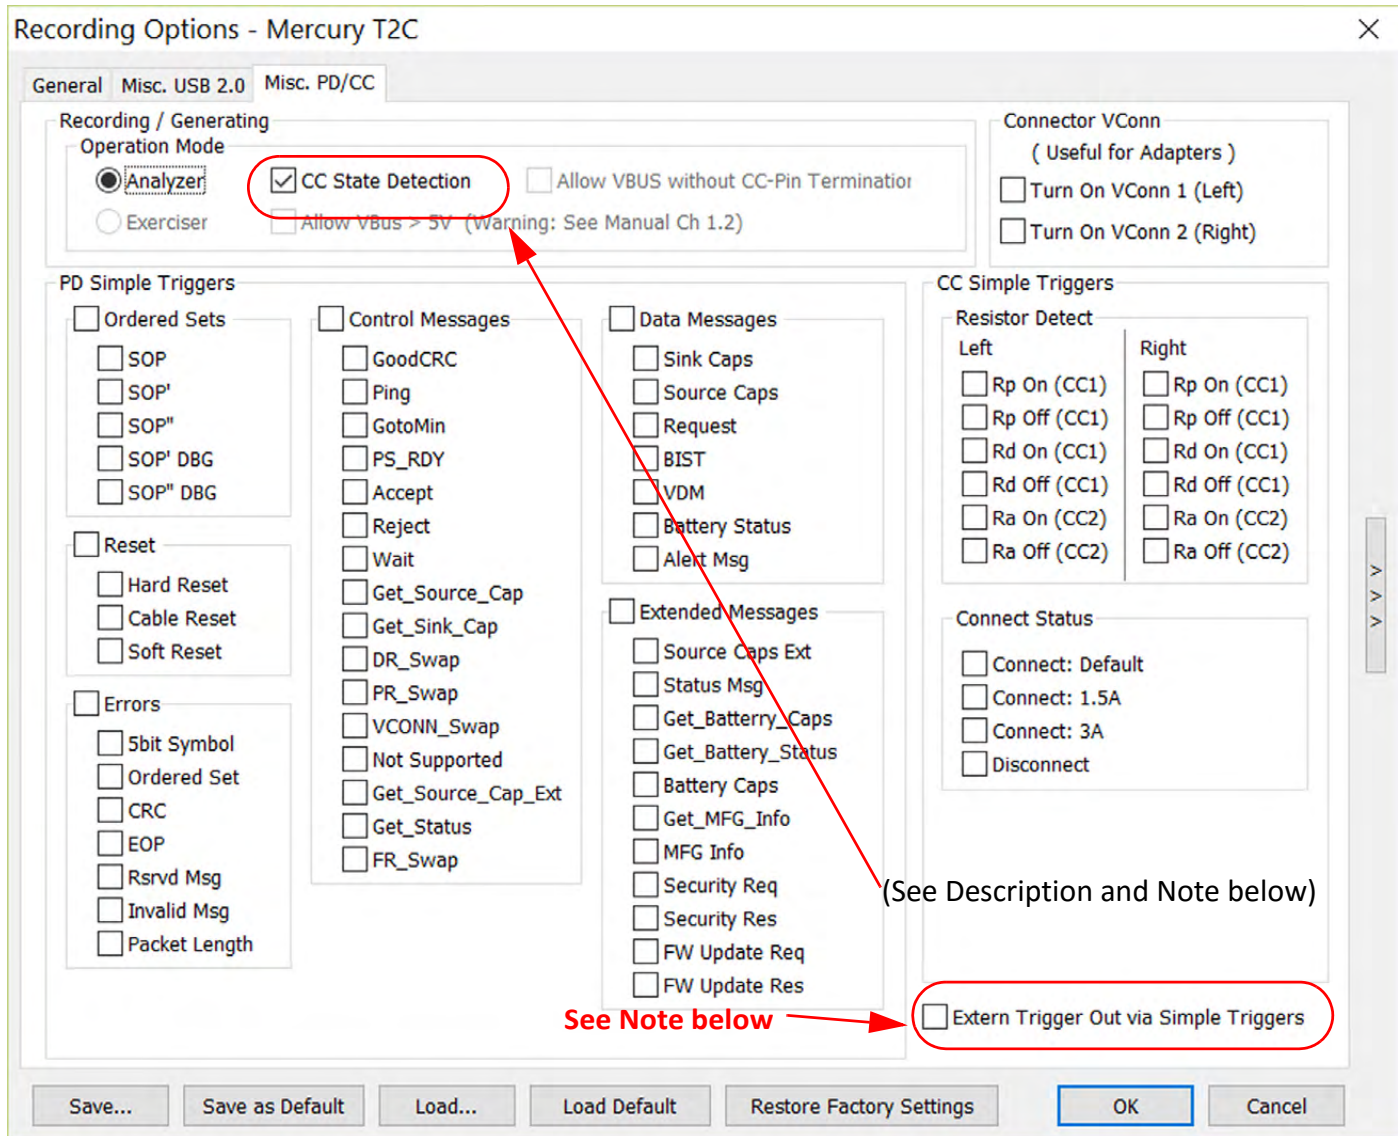

Figure 10.8: Mercury T2C: Recording Options for PD and CC Events
The Simple Trigger Options for Power Delivery (PD)/Configuration Channel (CC) events are shown in Figure 10.8 on page 373.